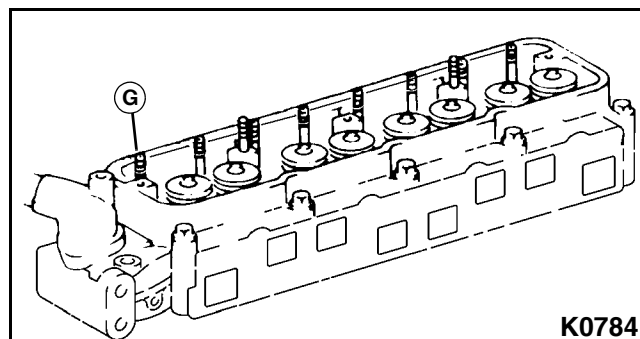

Figure 3-132
4. Install the pushrods (G) into the hydraulic valve lifters. **See Figure 3-132.**